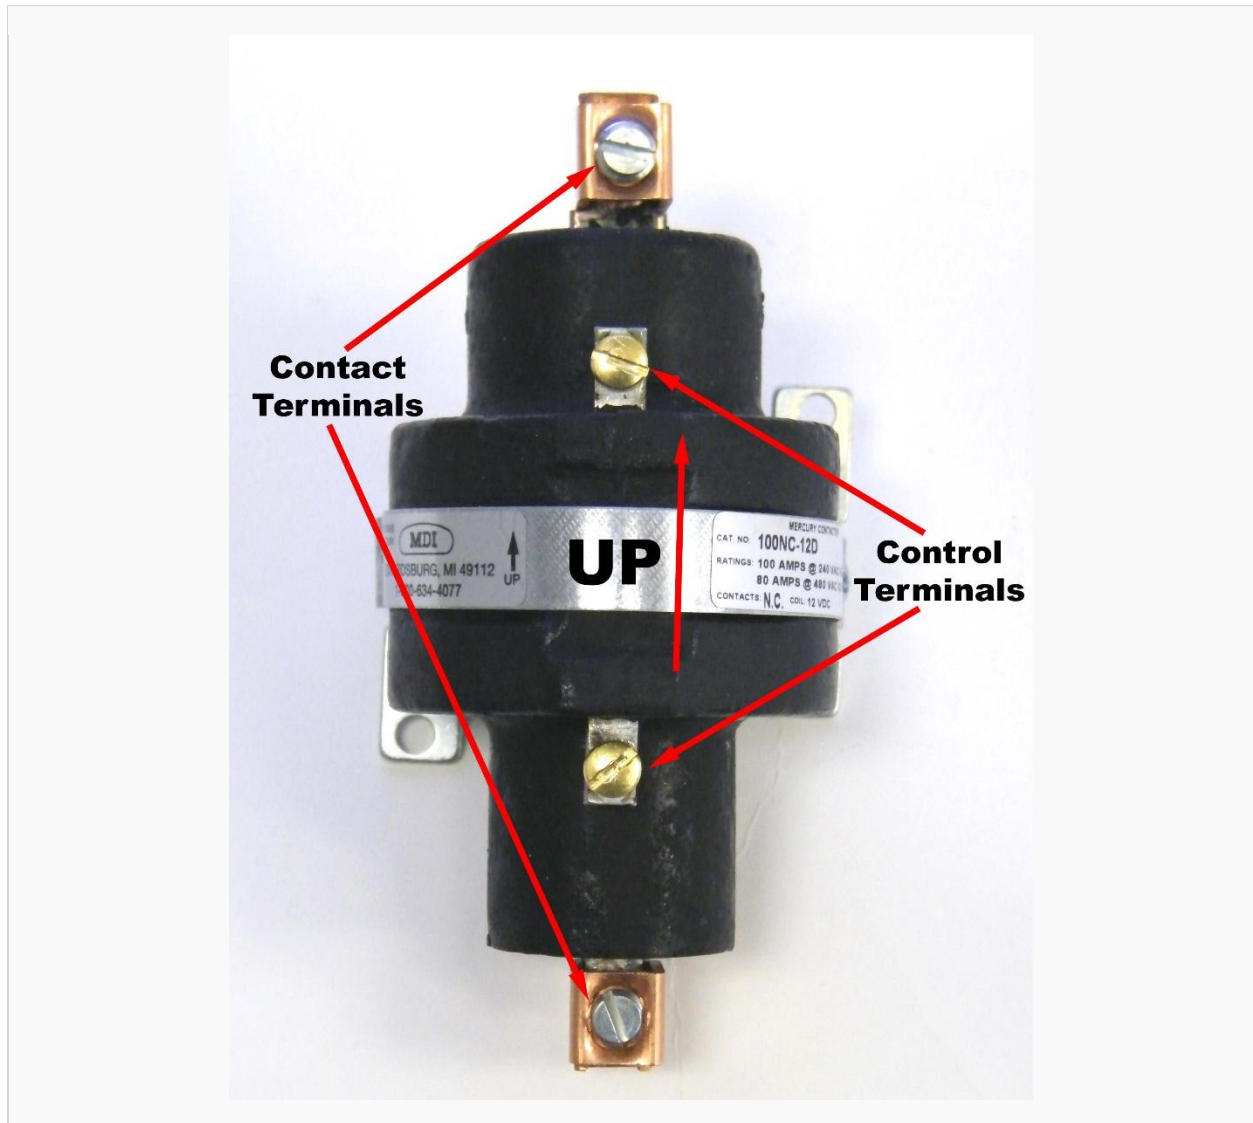

Figure 27 K07111NC12D 100A Mercury Displacement Relay
- Mobiltex provides, as an option for the RMU3, a 100A/240VAC normally-closed mercury displacement relay (K07111NC12D). This relay is shown in Figure 27.